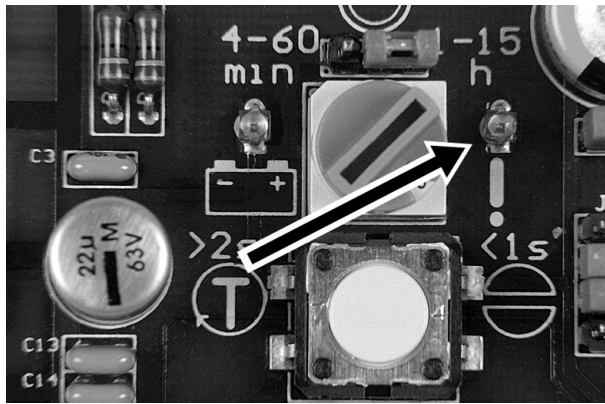

Figure 9 - LED for the monitoring time or fault indication
Note: LED display Figure 9 indicates the same operating state as the signal lamp.
- The signal lamp or the LED Figure 9 indicates the operating state of the centralized lubrication system.
- The faults are indicated by different flashing frequencies of the signal lamp or the LED Figure 9. See "Fault Indication".